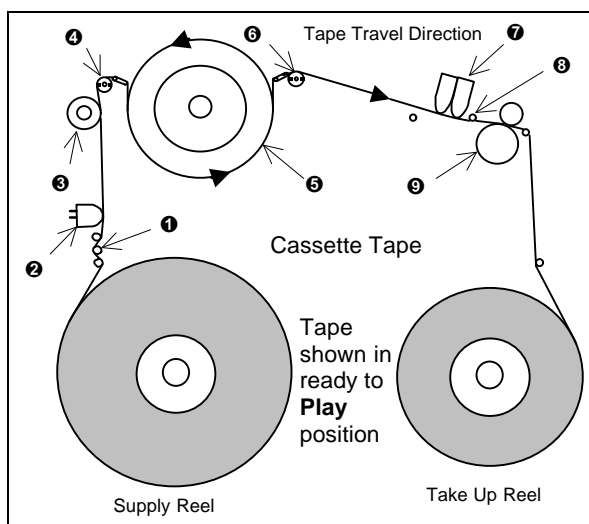

Figure 1 - Tape Travel Rollers
This will most assuredly ruin the alignment and probably the heads themselves. Refer to Figure 1 for the identification of the various transport parts detailed in the text below.
Take Up Reel. Note that when the tape is not wrapped around the rotating headstack, or no tape is installed, the ④ and ⑥ assemblies as well as the Tension Arm ① are not in the physical positions shown in Figure 1.